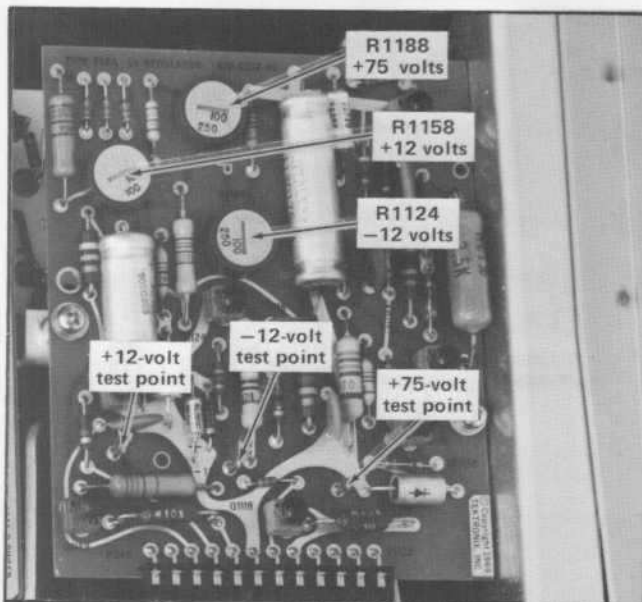

Fig. 5-3. Low-voltage power supply test points and adjustments (Low-Voltage Regulator circuit board).
- d. ADJUST— -12 Volts adjustment R1124 (see Fig. 5-3) for -12 volts, ± 0.0032 volt.
- d. ADJUST— +12 Volts adjustment R1158 (see Fig. 5-3) for a meter reading of +1 volt (± 0.003 volt).
f. Connect the precision DC voltmeter between the +12-volt test point on the Low-Voltage Regulator circuit board and chassis ground. See Fig. 5-3.
a. Connect the precision DC voltmeter between the +75-volt test point on the Low Voltage Regulator circuit board (see Fig. 5-3) and chassis ground.
c. ADJUST— +75 Volts adjustment R1188 (see Fig. 5-3) for a meter reading of +75 volts (± 0.278 volt).
- c. CHECK—Two millivolts (0.4 division) peak-to-peak maximum line-frequency ripple on the –12-volt, +12-volt, and +75-volt supplies while changing the autotransformer output voltage throughout the regulating range selected by the Line Voltage Selector assembly on the rear panel. Power-supply test points are shown in Fig. 5-3.